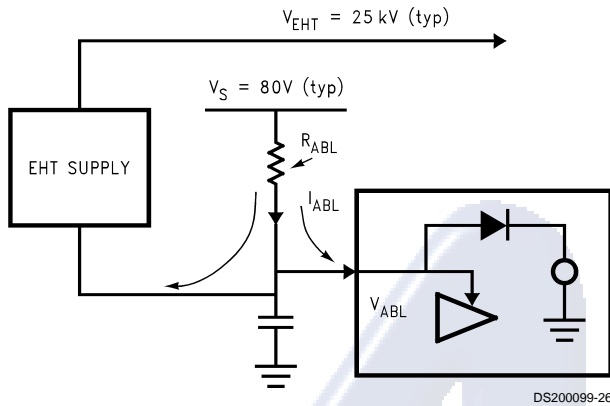

FIGURE 4. ABL
**ABL:** The Auto Beam Limit control reduces the gain of the video amplifiers in response to a control voltage proportional to the CRT beam current. The ABL acts on all three channels in an identical manner. This is required for CRT life and X-ray protection. The beam current limit circuit application is as shown in *Figure 4*; when no current is being drawn by the EHT supply, current flows from the supply rail through the ABL resistor and into the ABL input of the IC. The IC clamps the input voltage to a low impedance voltage source (the 5V supply rail).